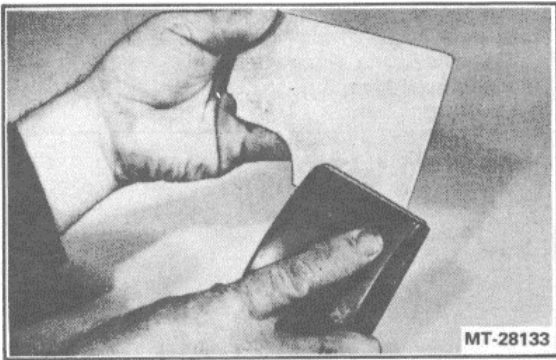

Figure 35. - Sanding Backing Patch
15. Trim the perimeter and sand the mating surface of the backing patch (Figure 35) with 80 grit sandpaper (or less), checking for smooth fit to the underside. Clean all surfaces with air.